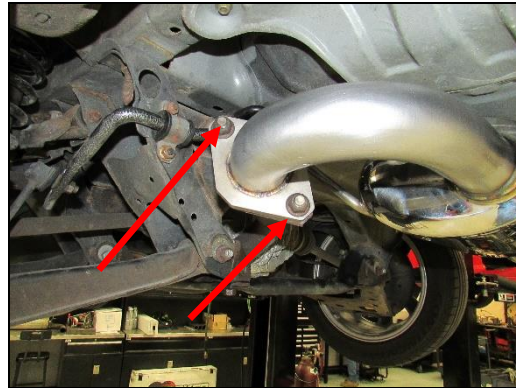

Figure 4
2. Reuse the OE gasket and nuts replace if needed. Install the gasket, connect the Blackheart flange to the OE flange, Line up the exhaust tip, and tighten (x2) 17 mm head nuts (**Figure 4**).